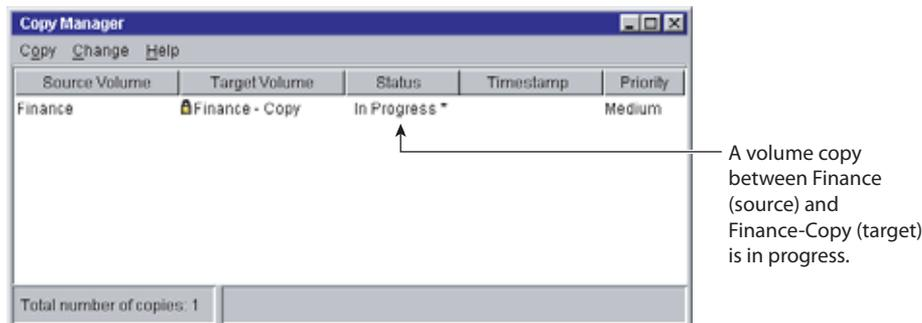

Figure 4-32 Viewing the Volume Copy Status in the Copy Manager
11. Select **Volume >> Copy >> Copy Manager** to open the Copy Manager to view the status of the volume copy, as shown in Figure 4-32.